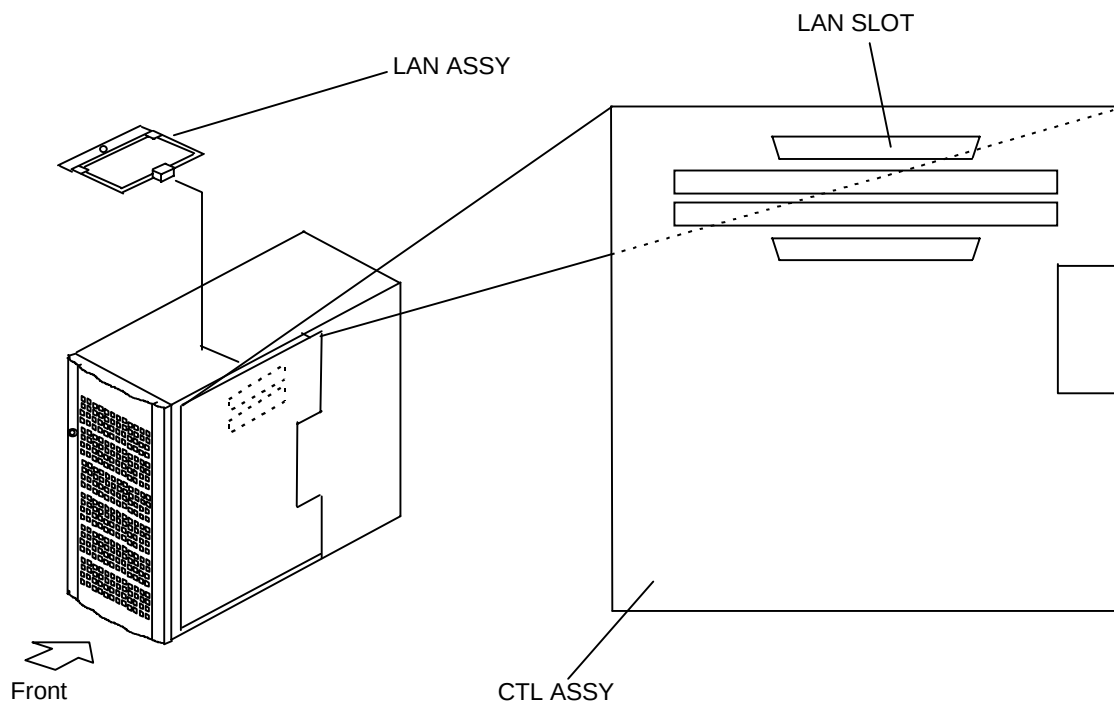

Figure 13.1 Replacing LAN ASSY
13. Replacing LAN ASSY (See Figure 13.1.)